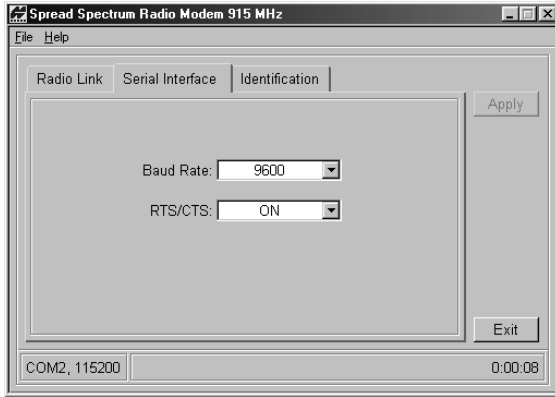

Figure 2-30. Modem-TPS Serial Interface Tab
5. Click the **Serial Interface** tab, set the following parameters, and click **Apply** (Figure 2-30 on page 2-33):